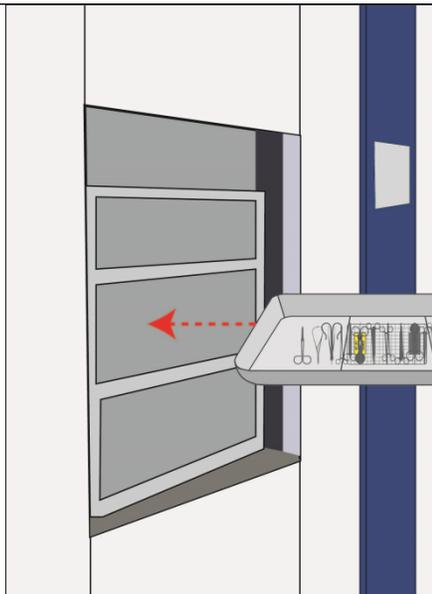

Figure 3
1. Adhere the CycleCheck® indicator onto the TOSI® rack **Fig. 1** Then place the rack on the bottom of a surgical tray with the instruments placed on top of the TOSI® test rack, covering the test strip (this location provides the most challenging position to test that thermal disinfection wash cycle). **Fig. 2** Then place tray on the middle shelf of the washer rack. **Fig.3**